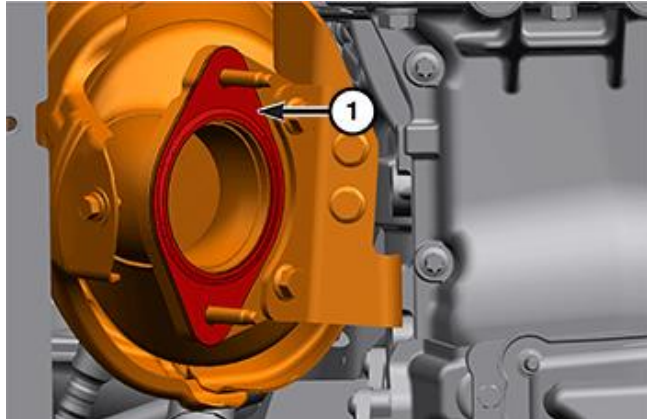

Figure 59 – Y-Pipe
- e. Remove and **DISCARD** the flange gasket between the crossunder pipe to front catalyst (Figure 59).